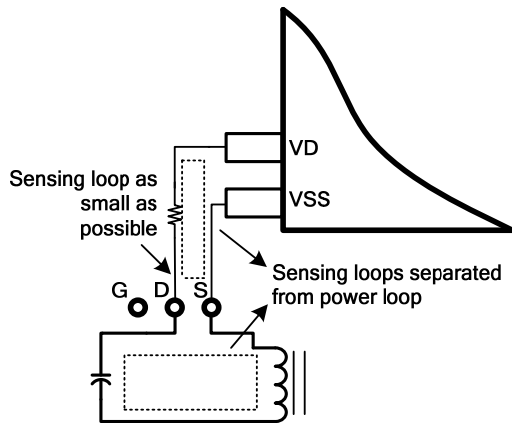
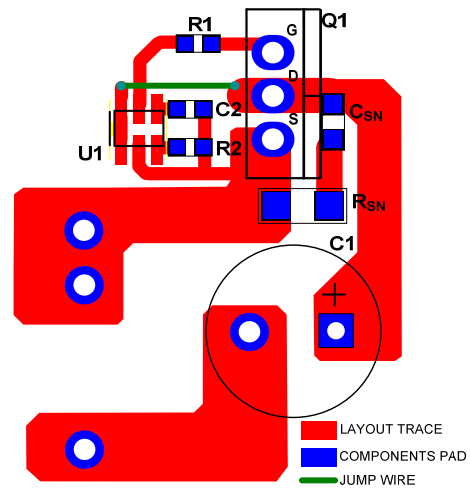

Figure 10: Voltage Sensing for VD/VSS
Figure 11: Layout Example with TO220 Package SR MOSFET
Efficient PCB layout is critical for stable operation. For best results, refer to Figure 10, Figure 11, Figure 12, and follow the guidelines below.
3. Keep the IC out of the power loop to prevent the sensing loop and power loop from interrupting each other (see Figure 10).
Figure 11 shows a layout example of a single layer with a through-hole transformer and a TO220 package SR MOSFET. RSN and CSN are the R-C snubber network for the SR MOSFET. The sensing loop (VD and VSS to the SR MOSFET) is minimized and kept separate from the power loop. The VDD decoupling capacitor (C2) is placed beside VDD.